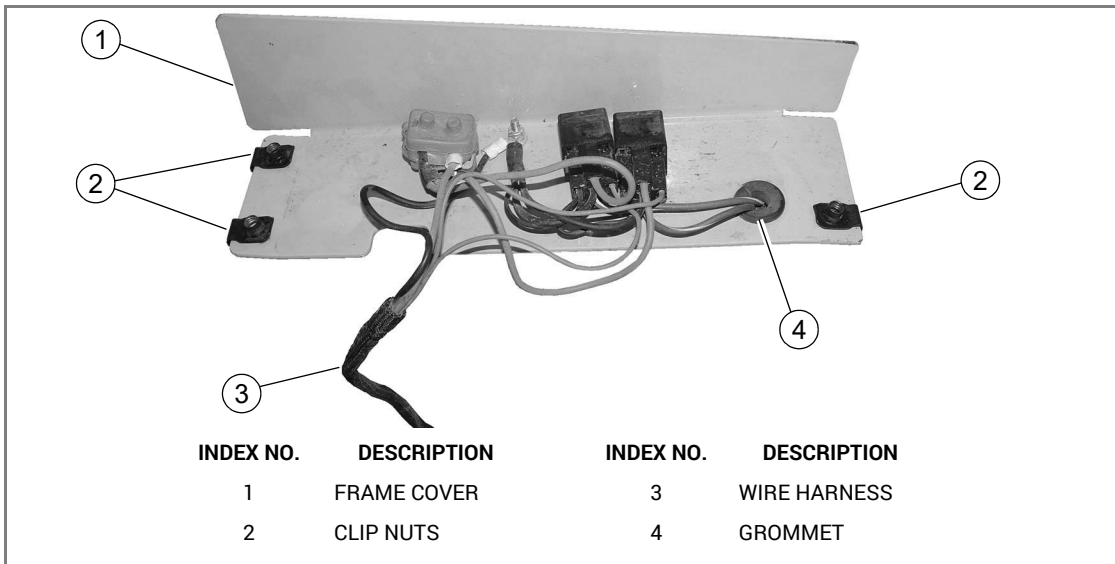
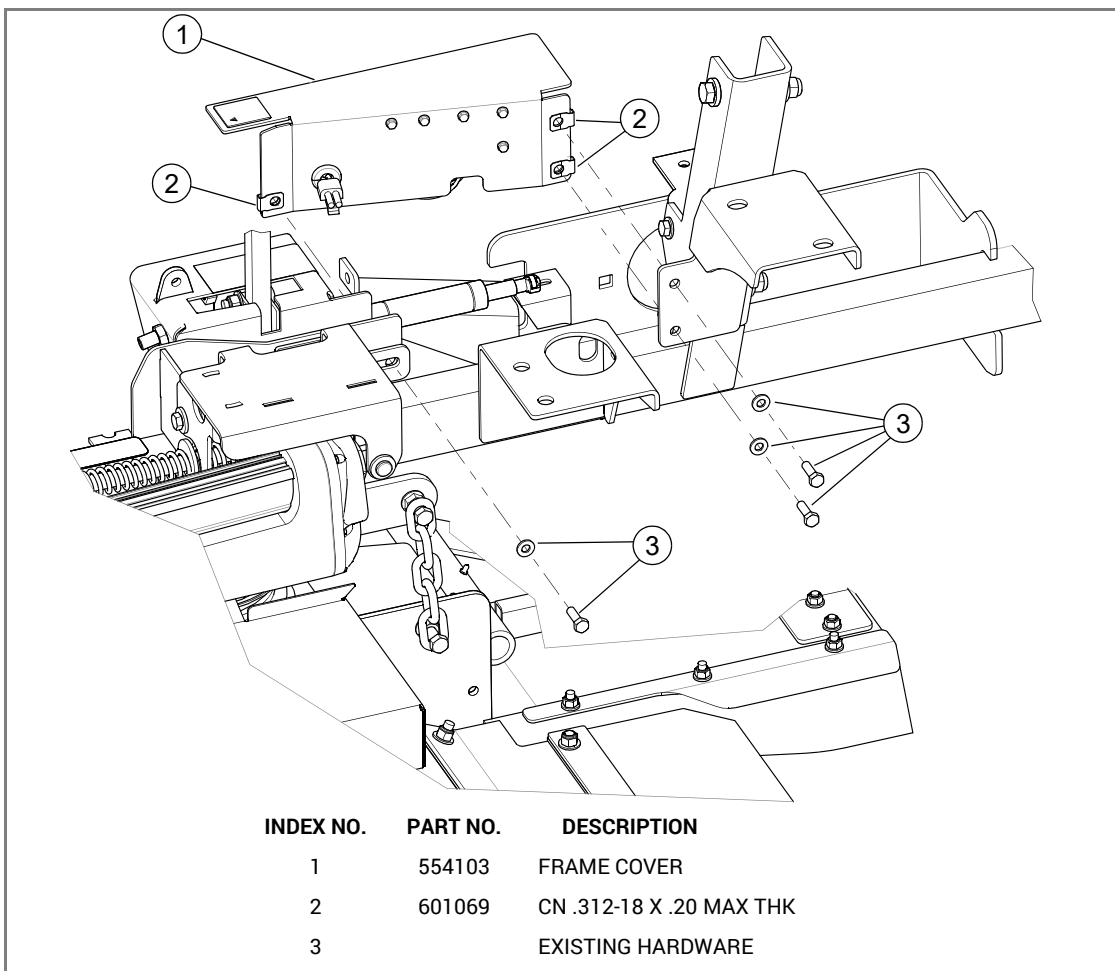

FIG. 11
FIG. 12
20. Attach the new left side frame cover to the mower. FIG. 11 & FIG. 12
NOTE: For mowers with serial numbers prior to 10110001, use the frame cover 110155 as shown. For mowers with serial number 10110001 and later, use frame cover 115964. When this is the case, the wire harness must be transferred from frame cover 110155 to frame cover 115964. FIG. 11
21. For mowers with serial number 10110001 and later, use frame cover 115962 and attach it to the tractor using existing two rear bolts. FIG. 12